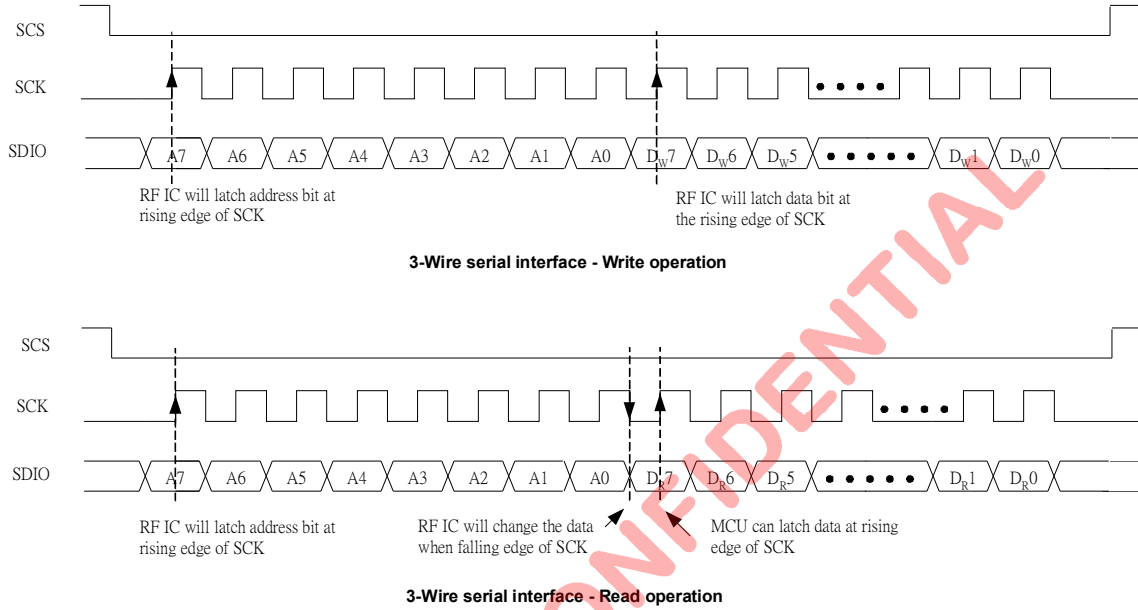
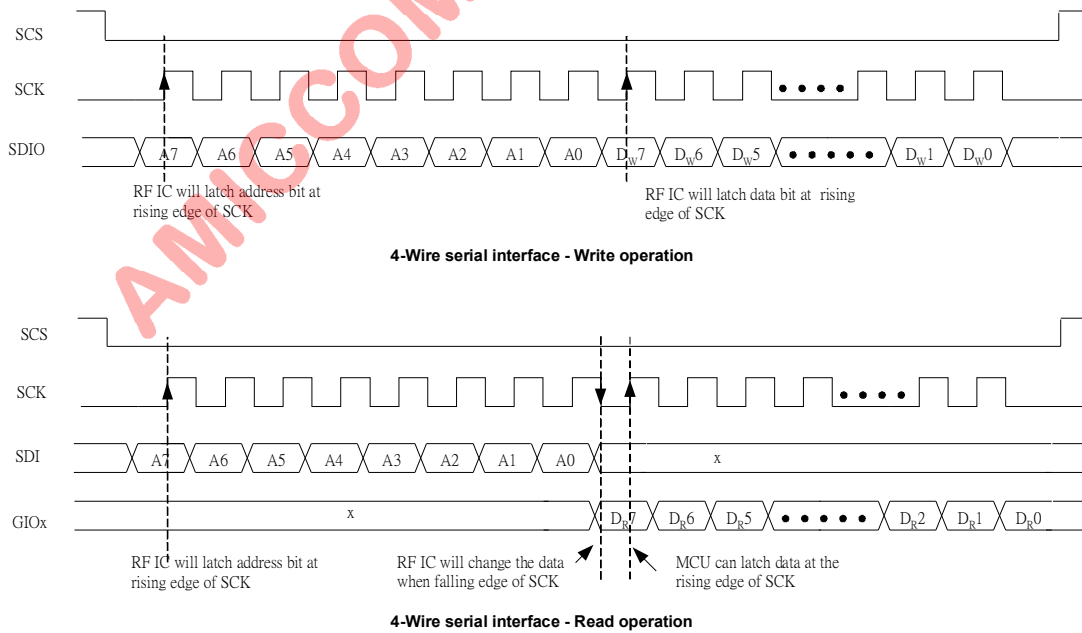

Figure 10.2 Read/Write Timing Chart of 3-Wire SPI
Figure 10.3 Read/Write Timing Chart of 4-Wire SPI
The first bit (A7) is critical to indicate A7130 the following instruction is “Strobe command” or “control register”. See Table 10.1 for SPI format. Based on Table 10.1, To access control registers, just set A7=0, then A6 bit is used to indicate read (A6=1) or write operation (A6=0). See Figure 10.2 (3-wire SPI) and Figure 10.3 (4-wire SPI) for details.
**Bit [7:0]:** SPI input or output data, see Figure 10.2 and Figure 10.3 for details.